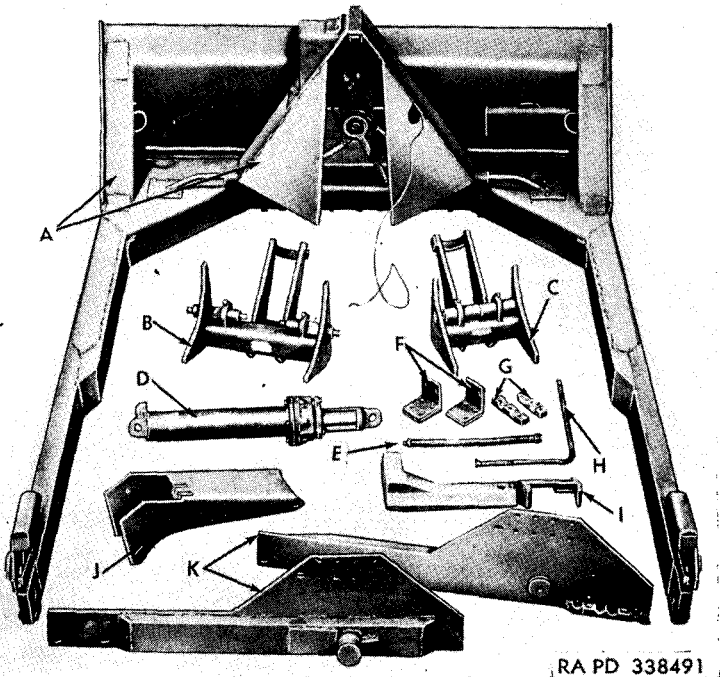

Figure 10. External parts for tank mounting bulldozer M1.
b. CONTENTS OF CRATE (FOR TWO COMPLETE BULLDOZERS (M1 OR M1A1)). (1) *External parts (M1)* (fig. 10).